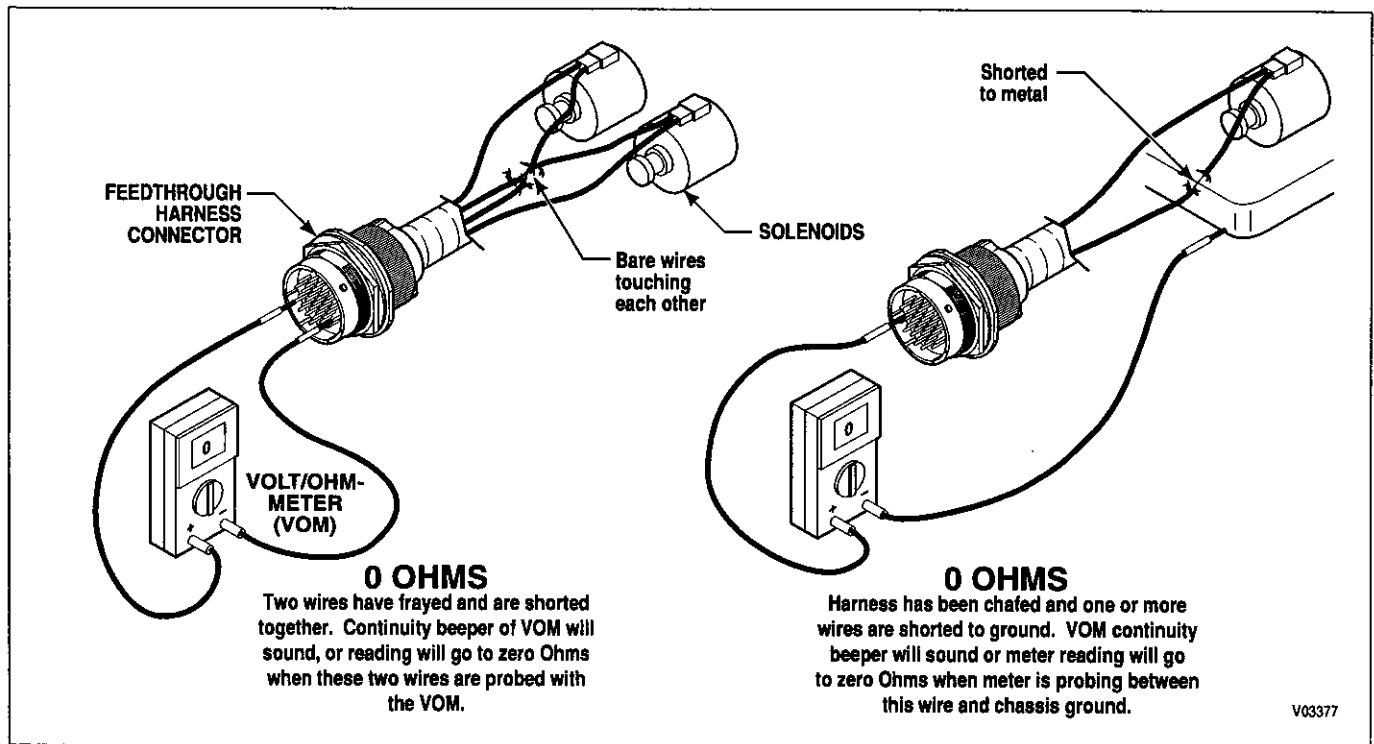

Figure 4-4. Short Between Wires and to Ground
- b. If the resistance check is good, check the harness for shorts between wires and to ground by performing the following (refer to Figure 4-4):
- (1) At the transmission connector, touch one probe of the VOM to one wire of the circuit being tested and touch the other probe to each terminal in the connector and to chassis ground and the transmission main housing. Do this for both wires in the circuit being tested.
- (2) If the VOM shows zero to low resistance, or the continuity beeper sounds, there is a short between the two points being probed, wire-to-wire or wire-to-ground. An indication of a short may be caused by a splice to the wire being checked. Check the wiring diagram in Appendix J for splice locations. If the short is not a splice, then isolate and repair the short.